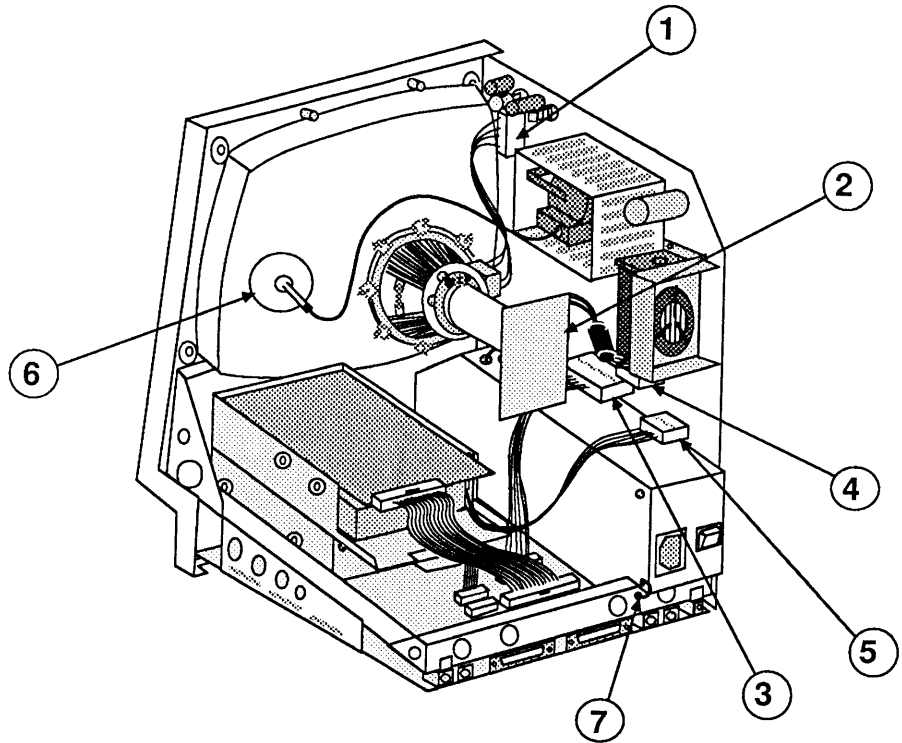

FIGURE 13
- Yoke cable (Figure 13, #1)
- Main logic board cable (Figure 13, #3)
- Video board cable (Figure 13, #4)
- Hard disk drive power cable (Figure 13, #5), if present
9. Replace the anode cap (Figure 13, #6).
10. Reconnect the video board (Figure 13, #2) to the neck of the CRT. It fits only one way.
11. Replace the screw that secures the power supply ground wire to the chassis (Figure 13, #7).